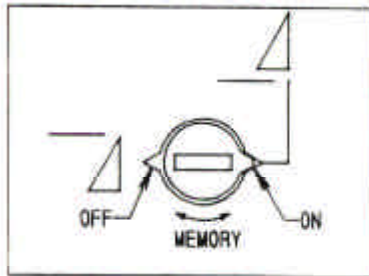

Figure 7
- A. Use a small screwdriver and rotate the time range adjustment screw to the desired range (either 6M, 60M, or 12HR) as shown in Figure 7.